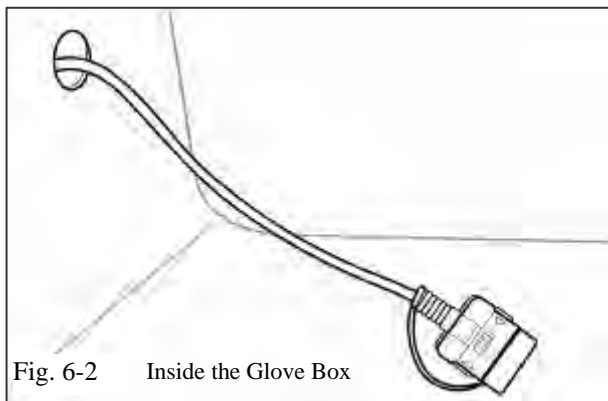

Fig. 6-2 Inside the Glove Box
- (b) Route the iPod cable through the hole from outside of the glove box. (Fig. 6-2)